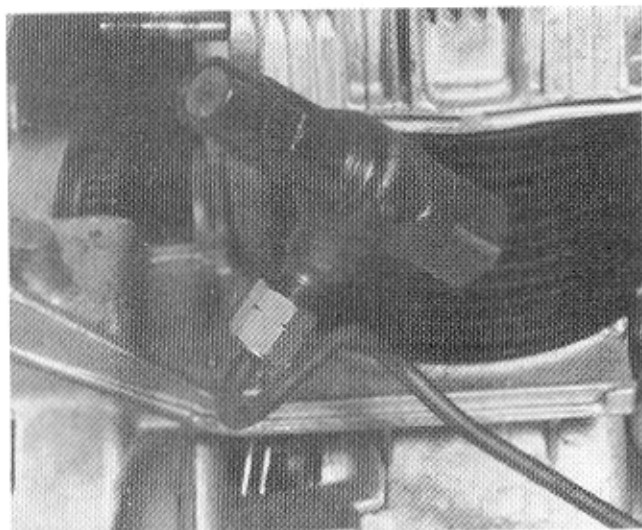

Figure 3.9 Testing the Fuel Injector Without a Test Rig.
- (1) Connect the injector to the pump-to-injector fuel pipe in such a manner that the injector nozzle points away from the engine. (Figure 3.9).